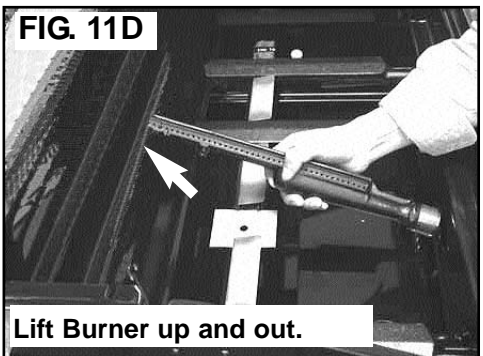

FIG. 11D
4. Lift the burner out and remove the cardboard packing. (FIG. 11D)
(49) MAIN BURNER
(50) MAIN BURNER PIN